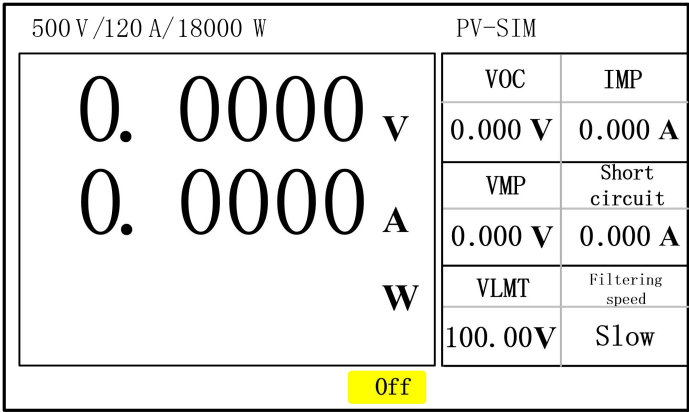

Figure 3- 25 Customized edit interface for photovoltaic file
- 3. Set“PV-SIM”function parameters, detail as figure3- 9 customized parameter list of photovoltaic function;